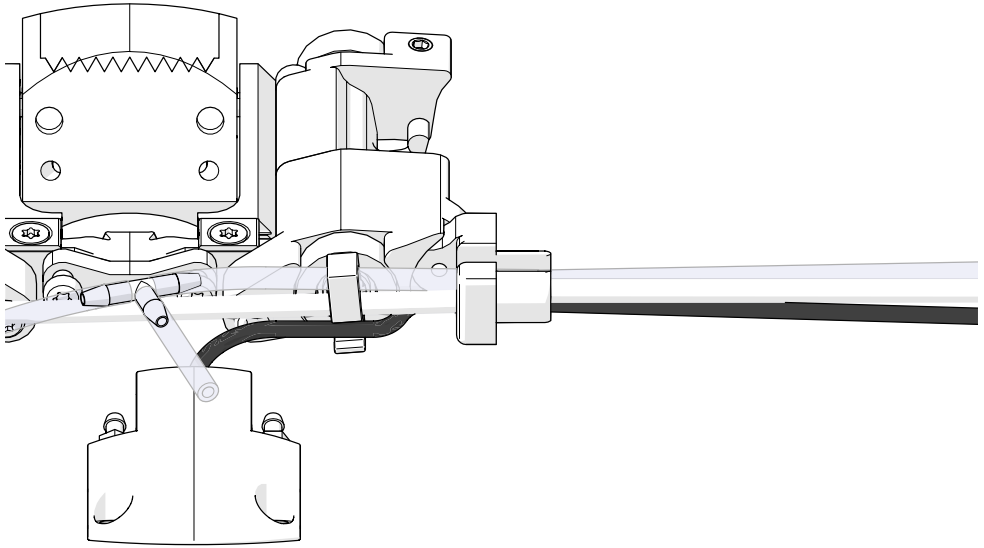

Fig. 60 - Position cables and hose
3. Place the encoder cable, irrigation hose and encoder cable in the cable management clip and run the cable/tube bundle through the sleeve clamp bracket (Fig. 60).